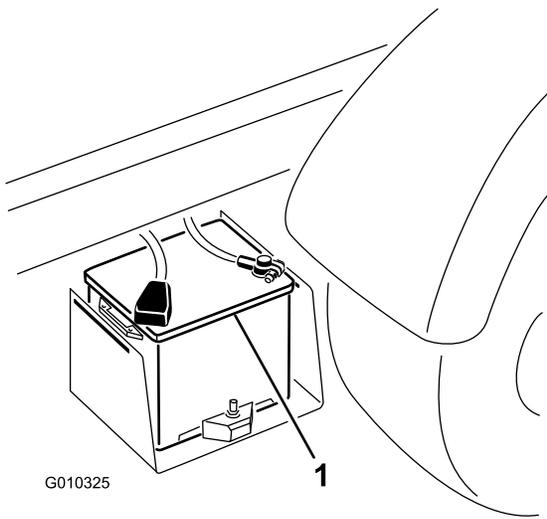

Figure 54
2. Connect a jumper cable between the positive posts of the two batteries (Figure 54). The positive post may be identified by a + sign on top of the battery cover.